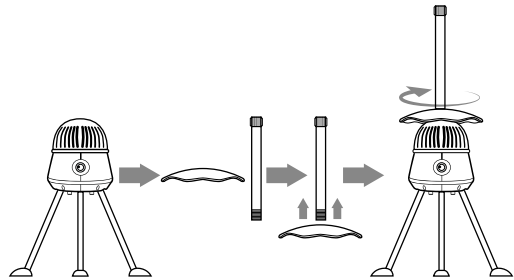

Fig. 2
2. Place the (F) Lower Tube through the (G) Waterproof Plate before screwing onto the (B) Motor Unit until tight (see Fig. 2).